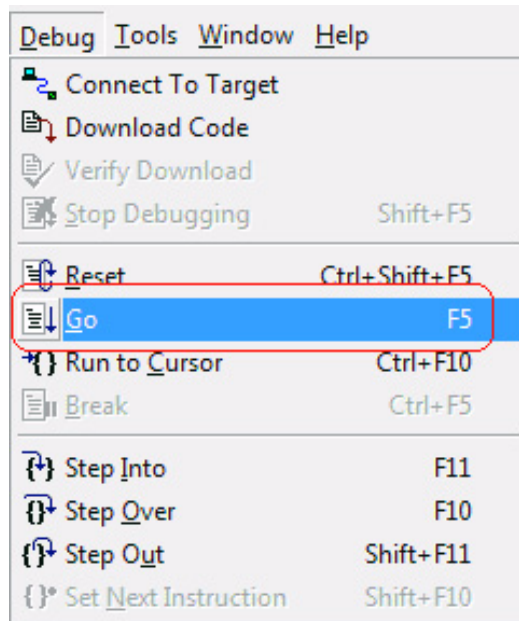

Figure 9. Select Go from the Debug Menu
10. To run the application, select **Go** from the Debug menu, as indicated in Figure 9. As a result, LEDs D4, D5, and D6 will blink in sequence.